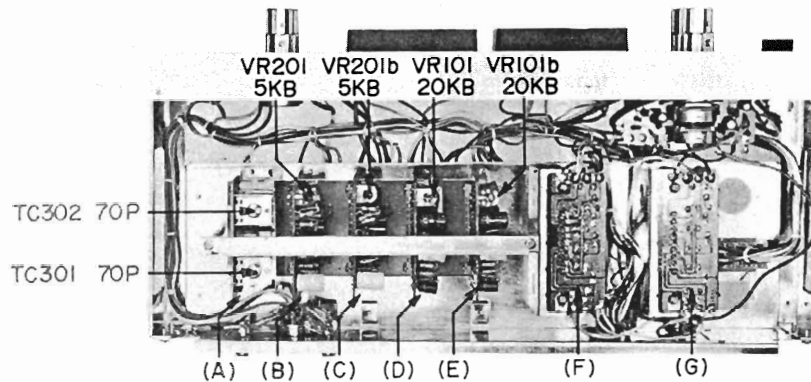

Fig. 16
- 4) Adjust the Playback Amp. P.C. Board playback level adjustment semi-fixed resistor VR101 50 k Ω (left ch.) and VR101b 50 k Ω (right ch.) shown in Fig. 16 so that the High Sensitivity V.T.V.M. indication is 4 dB (1.228V).
- 5) Set the Monitor Switch to SOURCE position and adjust Recording Amp. P.C. Board recording level adjustment semi-fixed resistors VR201 5 k Ω (left ch.) and VR201b 5 k Ω (right ch.) shown in Fig. 16 to obtain a Line output level of 4 dB.
- 3) Under these conditions, adjust OSC. P.C. Board frequency response adjustment trimmer condensers TC301 70P (left ch.) and TC302 70P (right ch.) shown in Fig. 16 to obtain an equally flat frequency response at 1,000 Hz and 10,000 Hz.